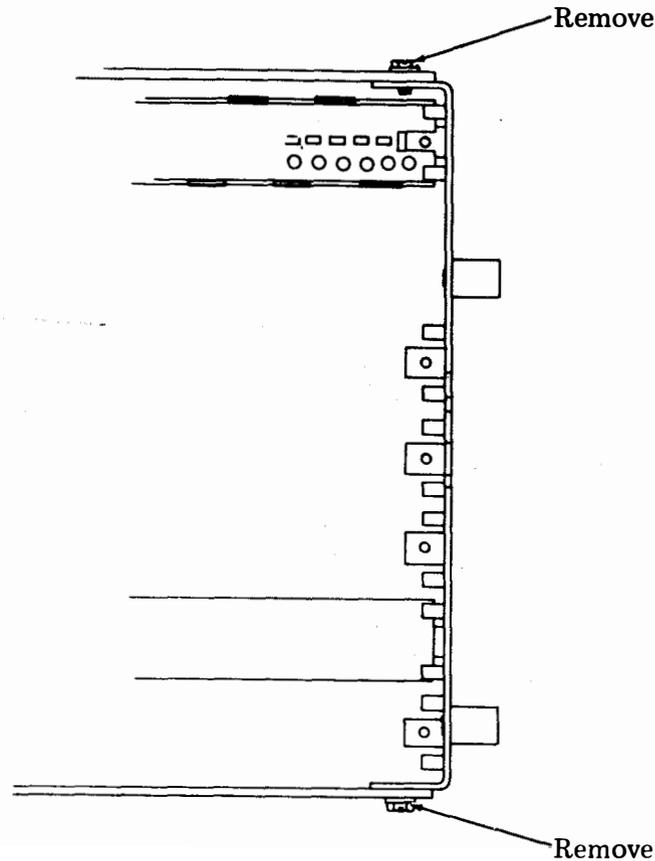

Fig. 33—Right Side Frame Removal
- (d) Remove the right side frame by removing four screws (Fig. 33).